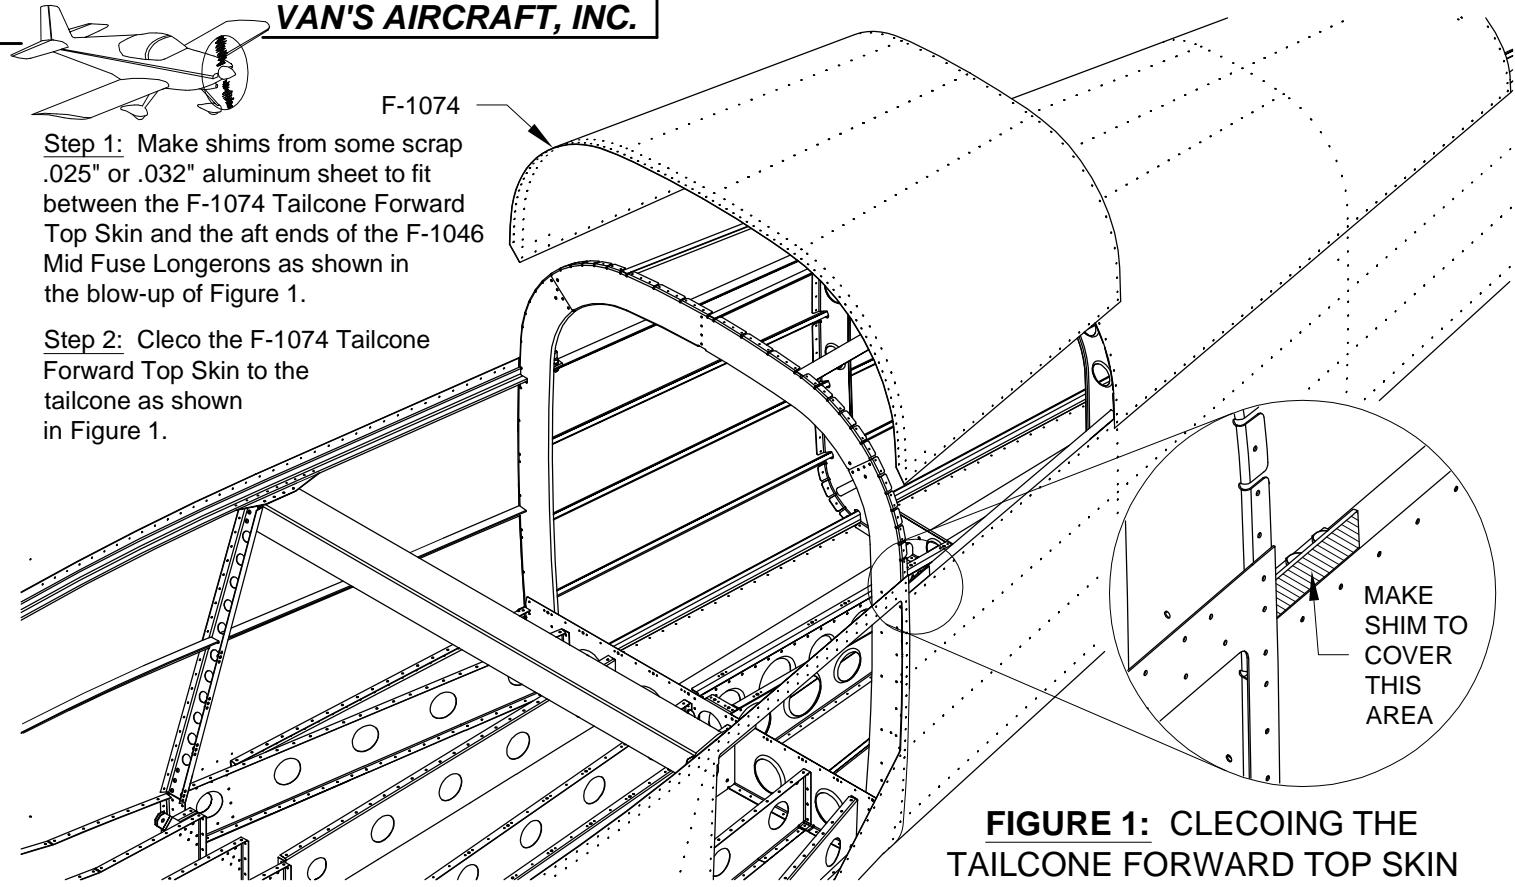

FIGURE 1: CLECOING THE TAILCONE FORWARD TOP SKIN
Step 1: Make shims from some scrap .025" or .032" aluminum sheet to fit between the F-1074 Tailcone Forward Top Skin and the aft ends of the F-1046 Mid Fuse Longerons as shown in the blow-up of Figure 1.